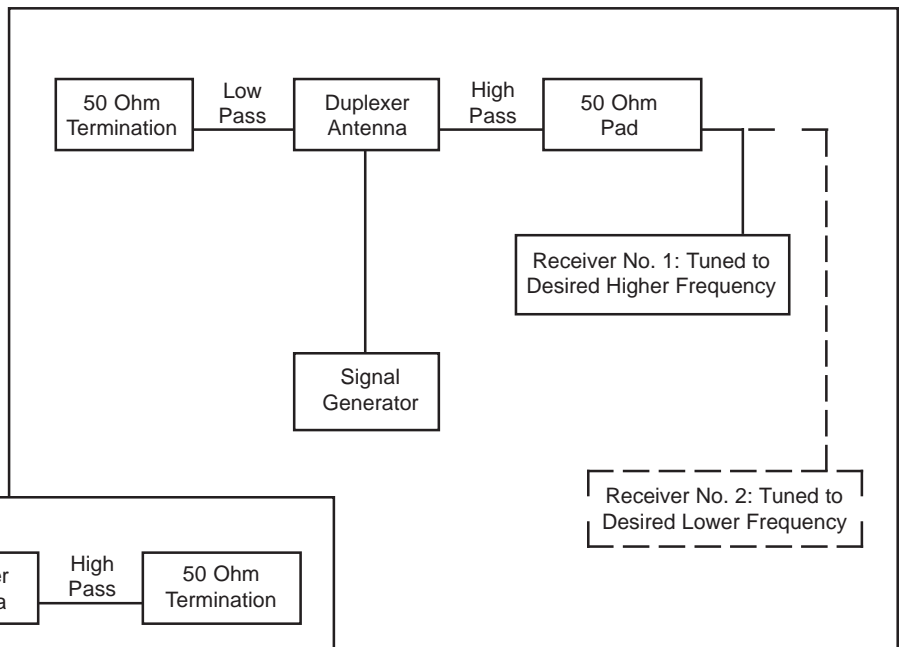

Figure 3a - Field Tuning
1. Connect the equipment as shown in Figure 3a.